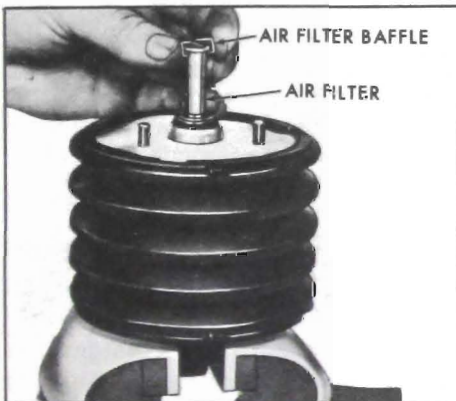

Figure 9-26—Removing Air Baffle
3. Carefully clamp power unit in a vise having padded jaws as shown in Figure 9-26.
Remove air filter baffle from sleeve of retainer and sleeve assembly by pushing down and sideways to unhook, then lift out air filter with baffle. Figure 9-26.
9. Assemble air filter baffle to air filter, then install this assembly into guide sleeve. See Figure 9-26. Air filter baffles clips over end of guide sleeve and into the same groove with and above the retaining ring.